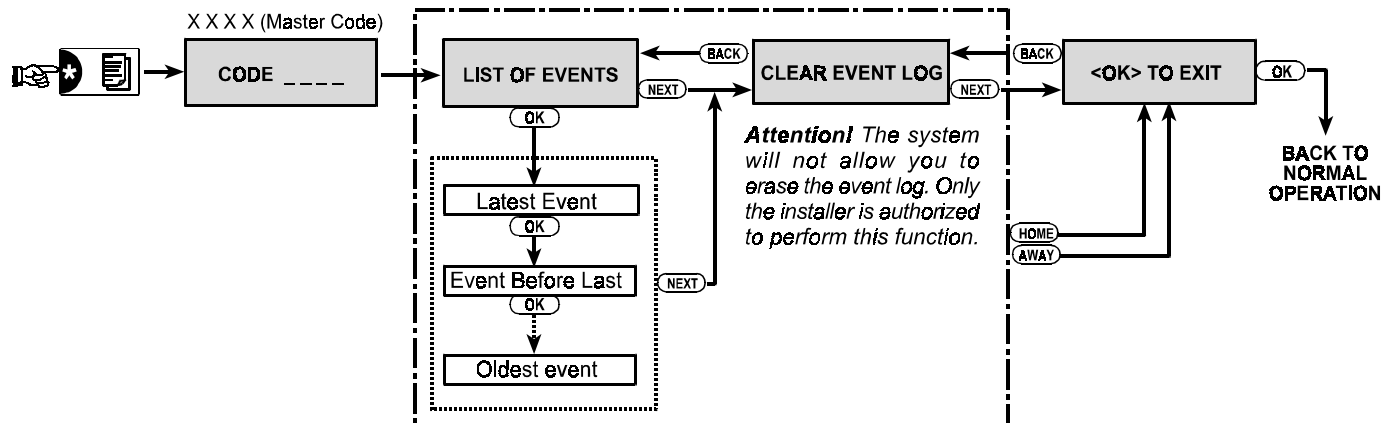

Figure 10. Using the Event Log
**Should you wish to get an overall view of using the log, refer to Figure 10. The chart there may even serve as your only guide to using the event log, instead of going through the written step-by-step procedure.**